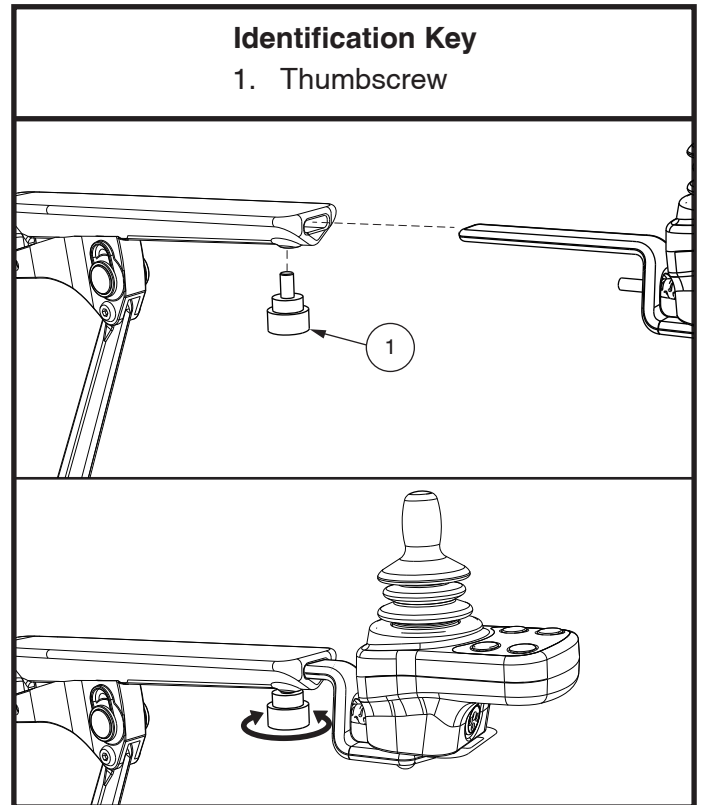

Figure 9. Armrest Component Removal/Installation
2. Loosen the thumbscrew. **See figure 9.**
3. Flip up the controller armrest and loosen the thumbscrew. **See figure 9.**